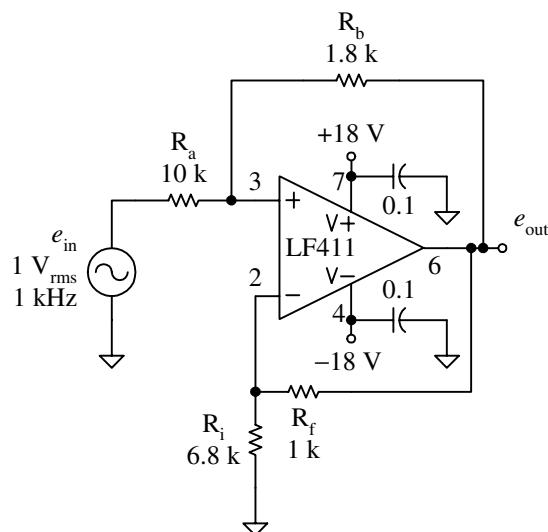

Figure 1-44 Four resistor feedback amplifier
4. Add R_a and R_b as indicated in Figure 1-44. Be sure to measure and record their value.